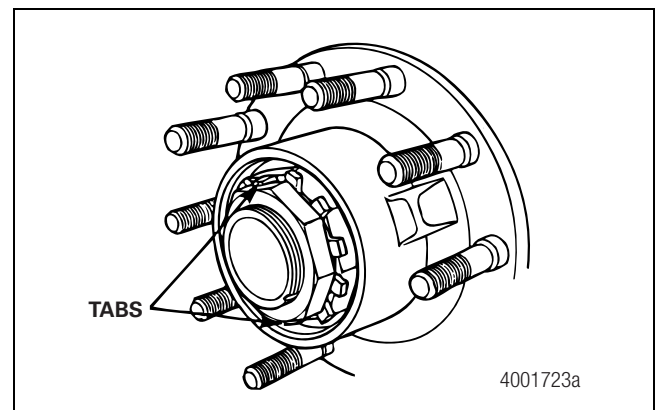

Figure 3.12
6. Use a tool to straighten the two opposing flattened lock washer tabs until they clear the outer nut. Keep the tool securely on the tabs. If the tool slips off the tabs, you can damage the hub seal. Figure 3.12.